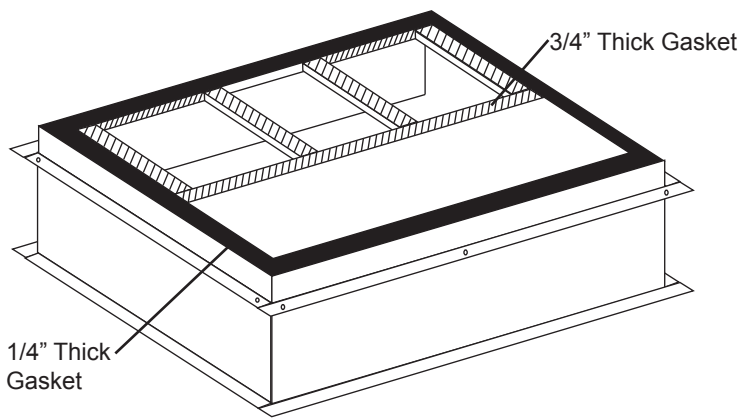

FIGURE 4 - GASKET DETAIL
14. Install provided 1/4" thick gasket seal on the outer / top perimeter of the roof curb. See Figure 4.
15. Install provided 3/4" thick gasket seal around the duct openings. See Figure 4. When installed, the weight of the unit will compress the gasket to seal the joint between the unit and the roof curb. Gasket strips must fit tightly together and leave no gaps for leakage.